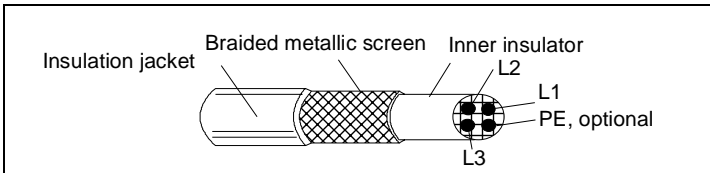

Figure 21 Effective motor cable screen (e.g. Ölflex-Servo-FD 780 CP, Lappkabel or MCCMK, NK Cables).
The general rule for cable screen effectiveness is: the better and tighter the screen of the cable, the lower the radiated emission level. Example of an effective construction is presented in Figure 21.
* Effective motor cable screen is required, according to Figure 21.
For ACS 141-4K1-1 and ACS 143-4K1-1, a cable shown in Figure 21 is required.
With input filters ACS100-FLT-C or ACS140-FLT-C conducted emission complies with the limits for unrestricted distribution class in First Environment as specified in EN 61800-3 (EN 50081-1) provided that the motor cable has effective screen (see Figure 21) and maximum length is 30 m.
The motor cable lengths have to be limited as specified in Table 10 and the cable must have effective screen according to Figure 21. At the motor end, the cable screen must be grounded 360 degrees with an EMC cable gland (e.g. Zemrex SCG screened cable glands).